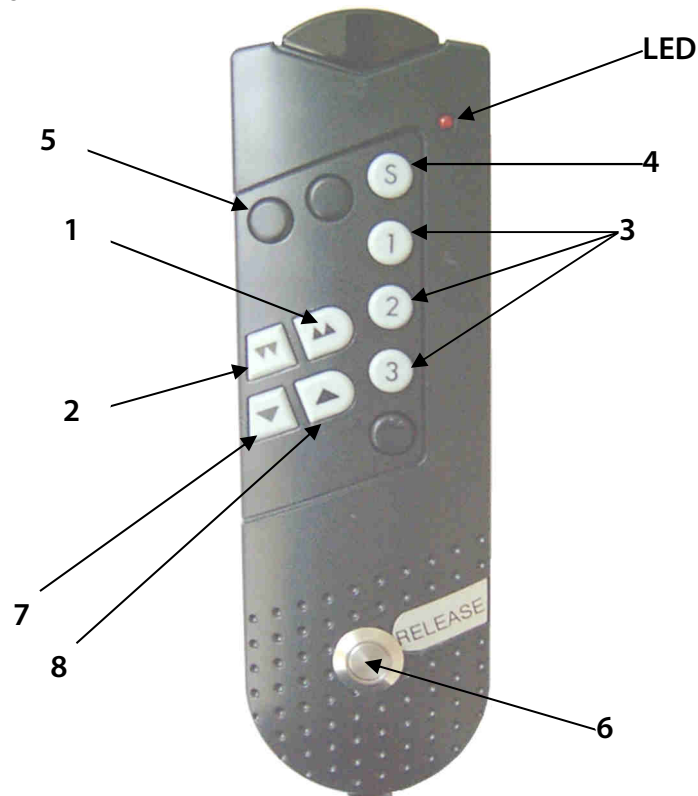

Figure 2-2
indicator lamp low green	XPE energy-saving mode (see chapter 2.15), depress the Release switch (Fig. 2-2/6) to activate the XPE to full power mode.
(Fig. 2-2/6).
Call Protec authorized, qualified technical service, if after reset of status message by pressing the release button (Fig. 2-2/6) the failure status is indicated during next moving again.
If after reset of indicator message with release button (Fig. 2-2/6) the drive blocked reason is not removed, the drive in function will move only in direction of the blocked drive, independently if up or down (Fig. 2-2/1, 2 or 7, 8) is commanded. This will prevent inclination of table top.
To move the table top up/down, it is necessary to depress at first the motion-release button (Fig. 2-2/6) before any other motion button (Fig. 2-2/1, 2, 3 or 7, 8).
To stop motion it is necessary to release at first the motion button (Fig. 2-2/1, 2, 3 or 7, 8) before the motion-release button (Fig. 2-2/6).
By depressing one of the arrow pushbuttons ,  or ,  (Fig. 2-2/1, 2 or 7, 8) in conjunction with the motion-release button (Fig. 2-2/6), the table top moves up or down. At end positions the movement stops automatically.
For synchronization depress pushbutton „S“ (Fig. 2-2/4) three times and then pushbutton (Fig. 2-2/5) in conjunction with the motion-release button (Fig. 2-2/6) to drive the table completely down until both columns stops. The control unit confirms this with a single ‘beep’ the columns elevation controllers are synchronized now.
It is possible to store and memorize three different intermediate table heights to pushbuttons 1, 2 and 3. Move table height to desired position. Depress pushbutton “S” (Fig. 2-2/4) three times and then the memory pushbutton 1, 2, or 3 (Fig. 2-2/3).
For selecting a stored position, press key 1, 2 or 3 in conjunction with the motion-release button (Fig. 2-2/6) until table top stops.
To reduce discharging of accumulator box in standby, the PROGNOST XPE-Akku switches into energy-saving mode after 20sec of last table top elevating and pressing of the motion-release button (Fig. 2-2/6).
The PROGNOST XPE-Akku switches from energy-saving mode back to normal operating mode by pressing the motion-release button (Fig. 2-2/6) again.